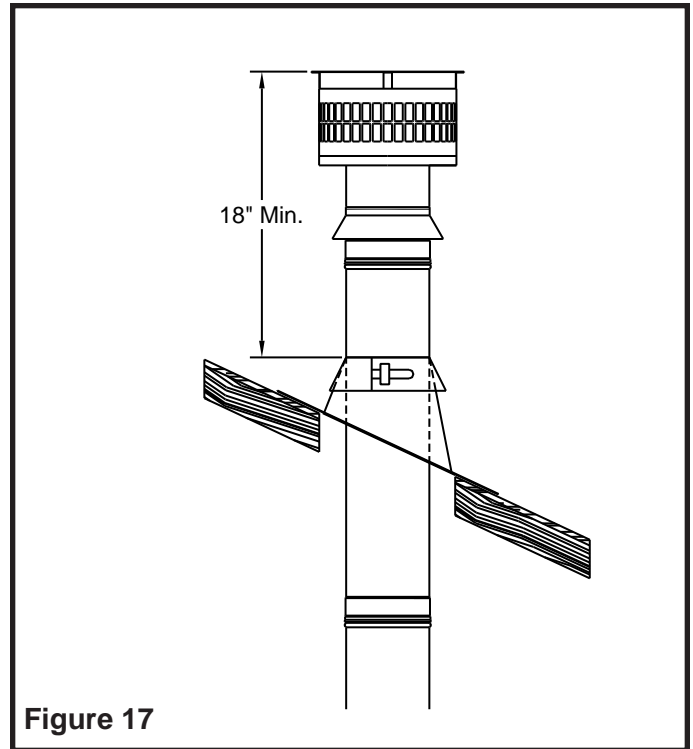

Figure 17
- 11) After the storm collar is installed, connect the Vertical Termination onto the vent pipe exiting the roof. Secure the joint with sheet metal screws provided. Properly installed, the top of the Vertical Termination should not be less than 18 inches from the storm collar below (See **Figure 17**). **IMPORTANT: Vent pipe should not extend more than 5' from roof unless additional guy wires or other additional support is provided.**